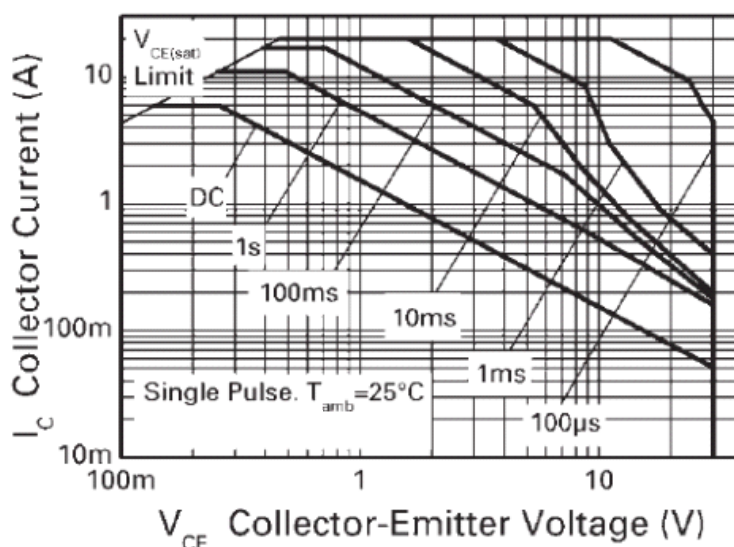

Figure 3. Safe Operating Range
4. Connect the power source to the VIN and GND of connector J3 using wires or terminal pins. If using wires, ensure the wire gauge has sufficient thickness to carry the operating current load. Apply a minimum of 0.8V to VIN. The maximum VIN is dependent on the on-time of the current according to Figure 3.